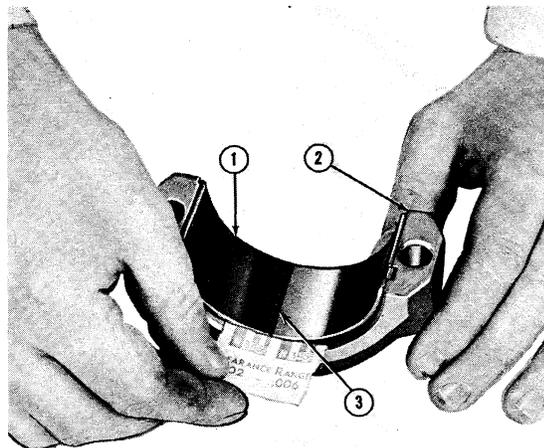

Figure 42
- Fitting main and connecting rod bearings. (Plastigauge method). Wipe away the oil and place a piece of the correct size plastigauge on the bearing liner surface the full width of the bearing cap and about 0.25 in. (6 mm) off center, Figure 42. Install the cap and tighten the bolts to the specified torque, Chapter 4. Do not turn the crankshaft while the gauge is in place.